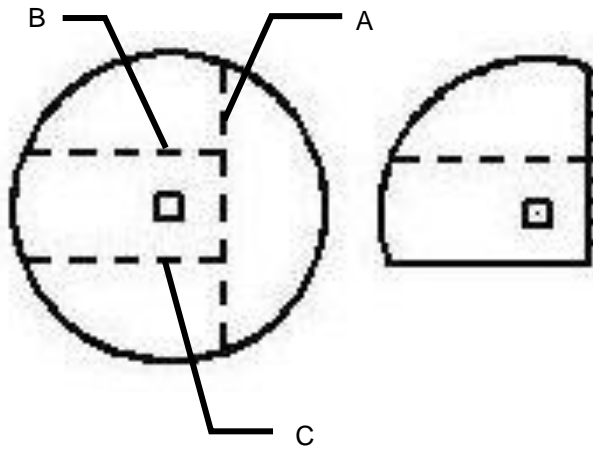

Figure 9
1. The moisture discs (006-4641H) will both need to be cut on line A. One disc will need to be cut on line B and one disc on line C. (Figure 9)